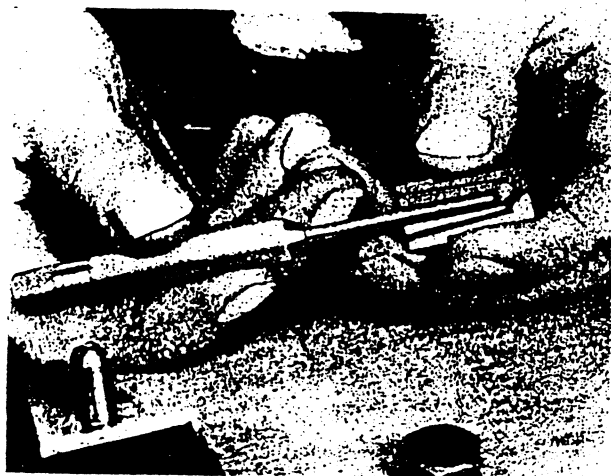

FIG 128.
3. Insert the special groove scraper (ET.071) until its nose locates in the fuel resevoir, as shown in Fig. 128. Press hard against the side of the cavity and rotate the nozzle to clear all carbon deposits from this area.